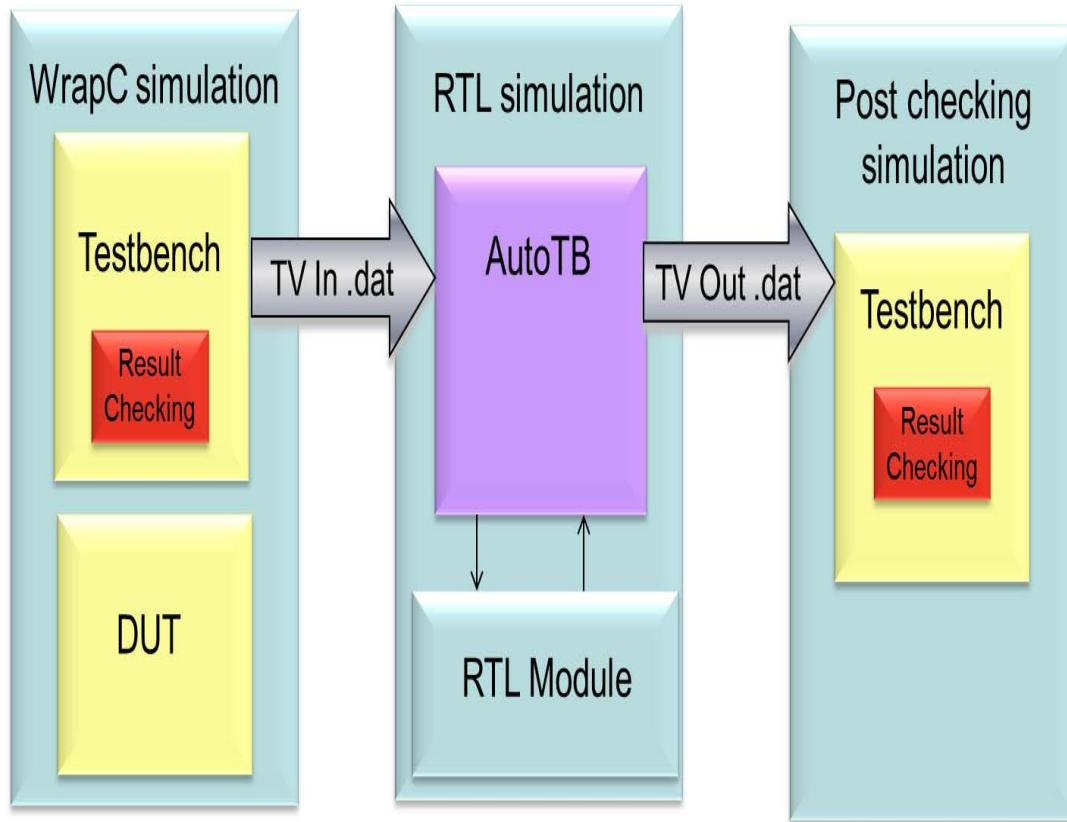

Figure 1-82: RTL Verification Flow
C/RTL cosimulation uses the C test bench to automatically verify the RTL design. The verification process consists of three phases, shown in Figure 1-82.
- Reduce Disk Space: The flow shown Figure 1-82 in saves the results for all transactions before executing RTL simulation. In some cases, this can result in large data files. The `reduce_delspace` option can be used to execute one transaction at a time and reduce the amount of disk space required for the file. If the function is executed N times in the C test bench, the `reduce_delspace` option ensure N separate RTL simulations are performed. This will cause the simulation to run slower.